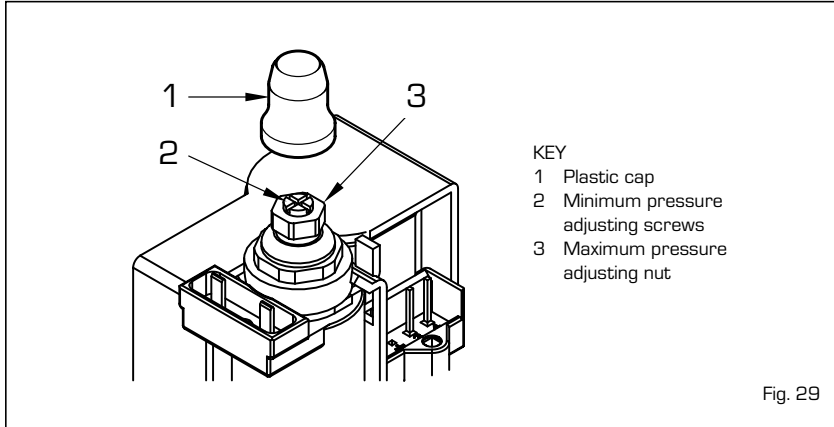

Fig. 29
4.2.1 Maximum and minimum pressure adjustment SIT 845 SIGMA (fig. 29):